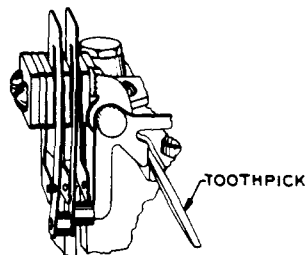

FIG. 3 - METHOD OF BLOCKING VERTICAL OFF-NORMAL SPRINGS IN THEIR UNOPERATED POSITION
3.05 On certain types of toll connectors, the busy ground is removed when the shaft is moved off-normal. In such cases, open the circuit to the release magnet by blocking the vertical off-normal springs in their unoperated position by means of a toothpick or KS-6320 orange stick as shown in Fig. 3. On 198-type switches, and when necessary on 197-type switches, insulate the contacts of the rotary off-normal springs that close the circuit to the release magnet. Where the adjustments require that the switch cut in on any level, exercise care not to interfere with the normal operation of circuits associated with the bank contacts.